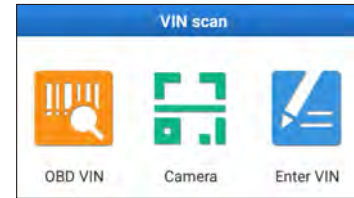

Fig. 5-4
1. Tap “Max VIN” to enter Fig. 5-4.